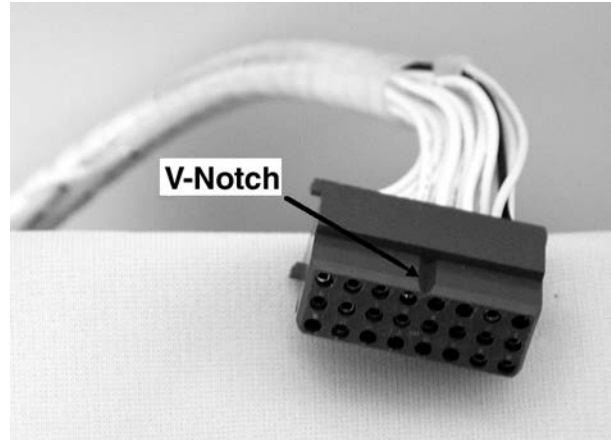

Figure 3 M-2001 Harness Connector
Figure 3 M-2001 Harness Connector.....	5
2. Mount the M-2001 and associated terminal blocks, consistent with the layout illustrated in Figure 3, M-2054 Outline Dimensions.